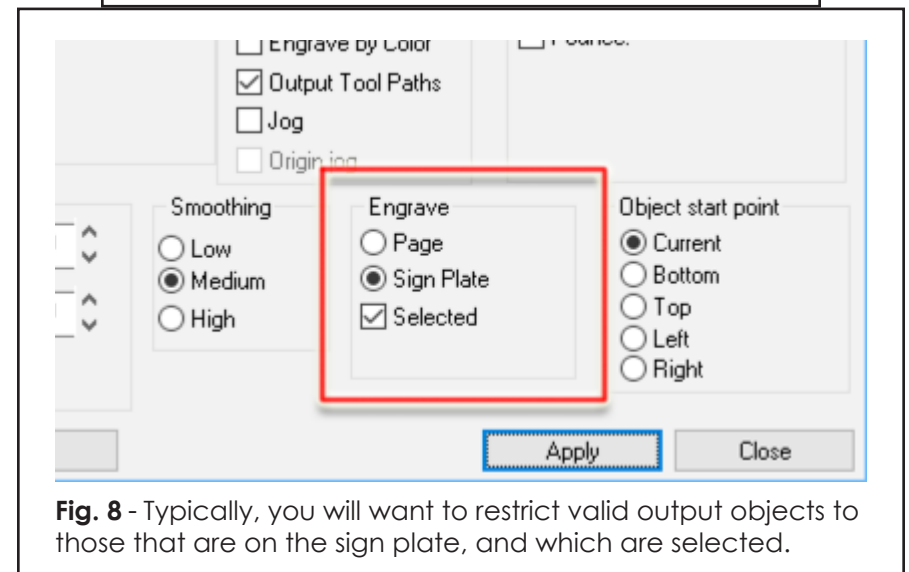

Fig. 8 - Typically, you will want to restrict valid output objects to those that are on the sign plate, and which are selected.
- e) For the Engrave setting (Fig. 8), choose between **Page** and **Sign Plate**, which are applied as follows: